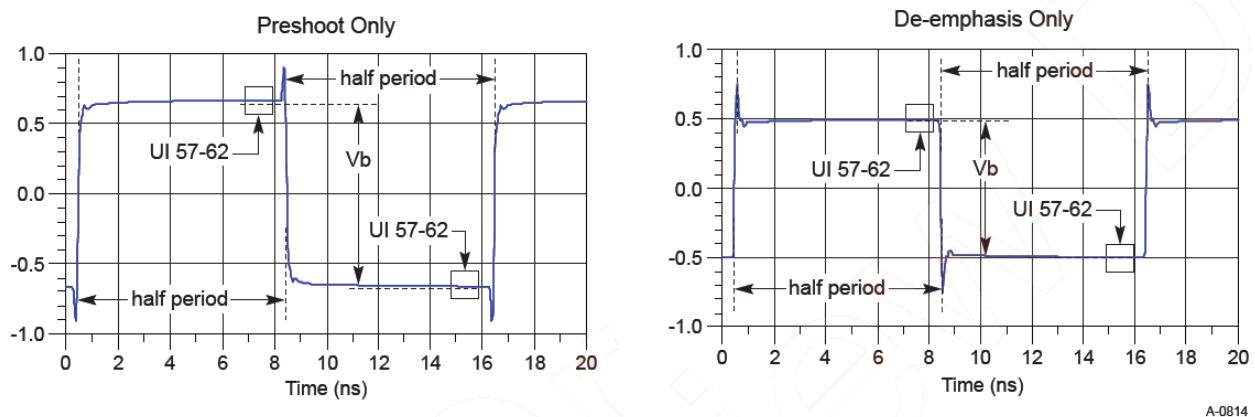

Figure 217 Waveform measurement points for preshoot and de-emphasis
8.0 GT/s, 16.0 GT/s and 32.0 GT/s PCIe signaling must support the full range of presets given in Table 8-1 (PCIe Base Specification Revision 5.0). Presets are defined in terms of ratios, relating the pre-cursor and post-cursor equalization voltages. The pre-cursor (V_c) is referred to as pre-shoot, while the post-cursor (V_b) is referred to as de-emphasis. This convention permits the specification to retain the existing 2.5 GT/s and 5.0 GT/s definitions for Tx equalization, where only de-emphasis is defined, and it allows preshoot and de-emphasis to be defined such that each is independent of the other. The tolerances in Table 8-1 (PCIe Base Specification Revision 5) also apply to 2.5 and 5.0 GT/s de-emphasis. The maximum swing, V_d , is also shown to illustrate that, when both c_{+1} and c_{-1} are nonzero, the swing of V_a does not reach the maximum as defined by V_d . The high frequency nature of PCIe signaling makes measurement of single UI pulse heights impractical. Consequently all amplitude measurements are made with low frequency waveforms as shown in Figure 217.